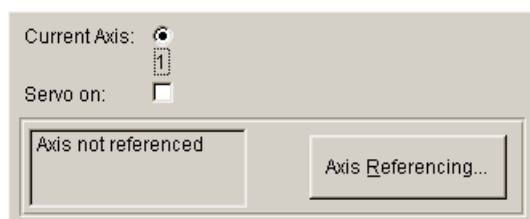

Fig. 11. Referencing display and button in the main window
- Using the *Axis Referencing...* button in the *Current Axis* pane of the main window (see Fig. 11).